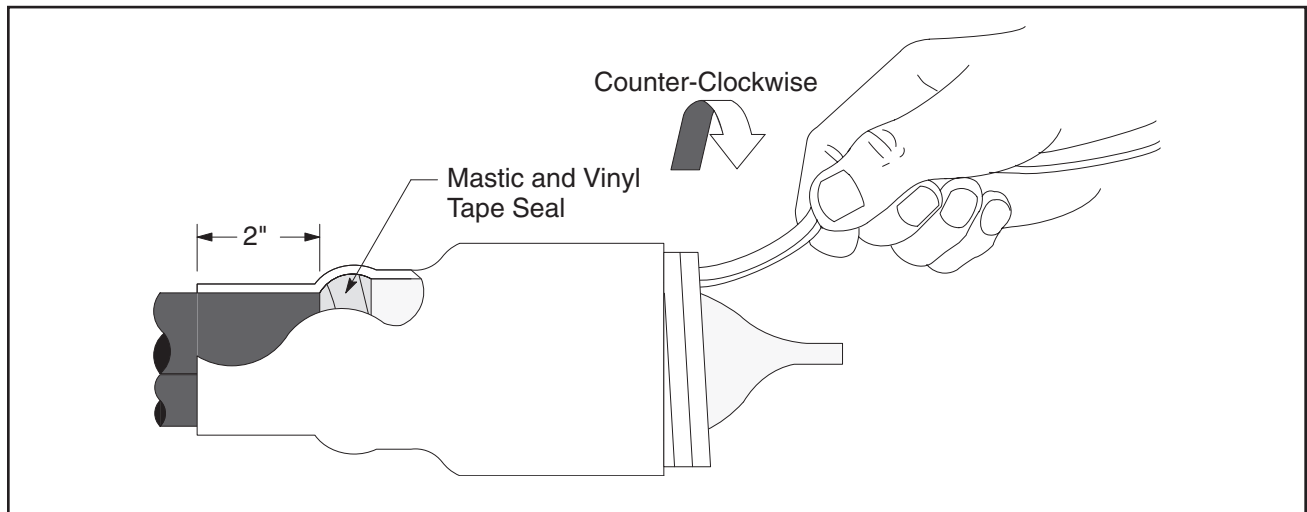

Figure 6
- 4.1 Install Cold Shrink by sliding it over the Lug Cover with the loose end tab at terminal lug end. Align the end of the Cold Shrink Tube approximately 2" beyond the Mastic Seal and Vinyl Seal Tape. Remove core by unwinding counter-clockwise (Figure 6).